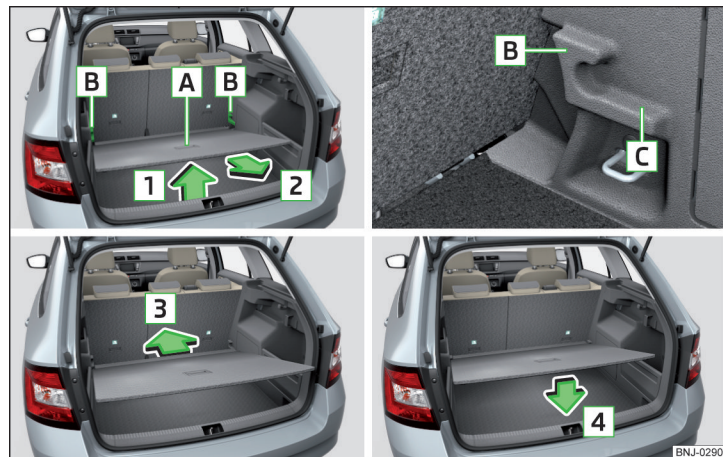

Fig. 102 Set the variable loading floor to the upper position
- Raise the variable loading floor by the handle **A** in direction of arrow **1** and move partially in the direction of arrow **2** » Fig. 102.